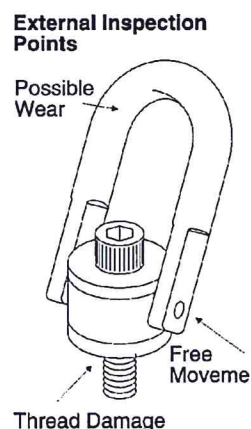

Figure 8
- Regularly inspect hoist ring parts. (Fig. 8)